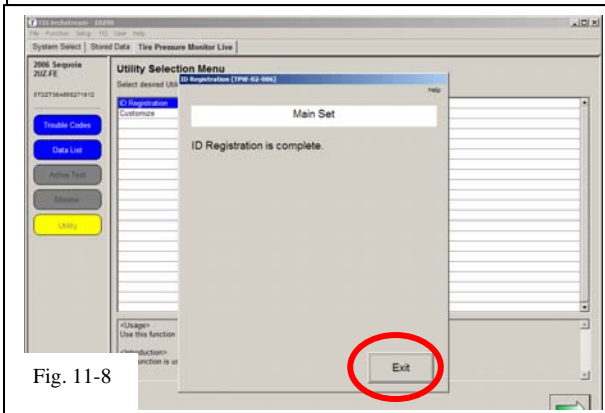

Fig. 11-8
- (k) After all TPMS ID numbers have been registered, “ID Registration is complete” text should be displayed. Click “Exit” to finish the registration process. (Fig. 11-8)